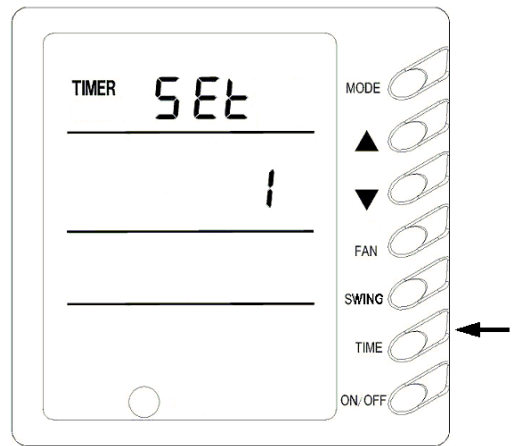
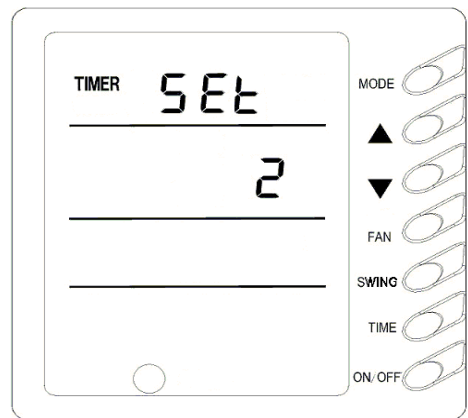
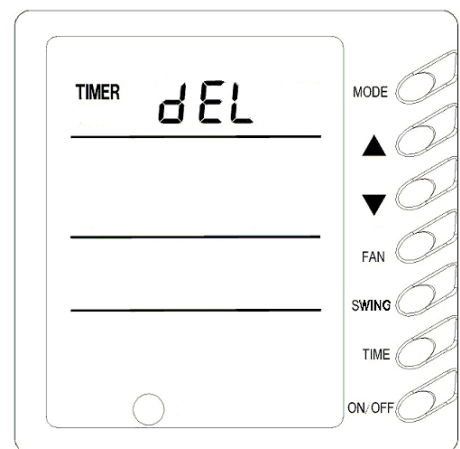

Fig.7
Fig.8
Fig.9
6) Timer Setting (Fig.7, 8, 9)
Either in ON status or OFF status of the unit press TIMER button into timing setting, and then press ▲ or ▼ button to set timing(Fig.7),set time(Fig.8) and delete timing (Fig.9). At last, press TIMER to set it.